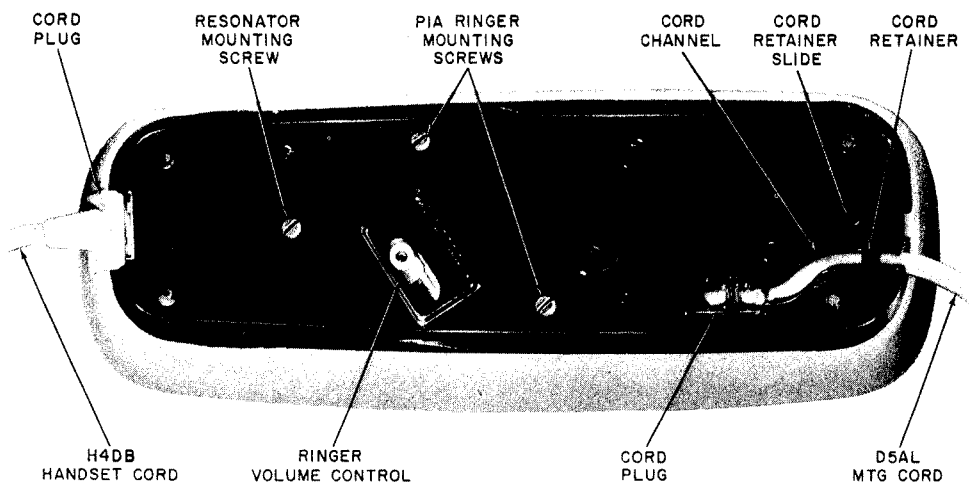

Fig. 11—Underside Of AD1 Telephone Base (Current Production)
(2) Insert the plug end of the D5AL or D5AN mounting cord (Fig. 11) into the jack located on the underside of the base assembly. **Make sure that the spring clip of the plug snaps into place to secure the plug.** Lay the cord in the cord channel and slide the cord retainer over the cord.
- (1) Disconnect the ringer leads.
- (2) Remove the terminal board mounting screws.
- (3) Remove ringer mounting screws from underside of AD1 base (Fig. 11).
- (4) Replace defective ringer with new ringer.
- (5) On the AC1 base (wall), engage the ringer volume control with the adjusting lever before fastening the ringer mounting adapter to the base.
- (6) Reposition and fasten the terminal board, and connect new ringer leads.